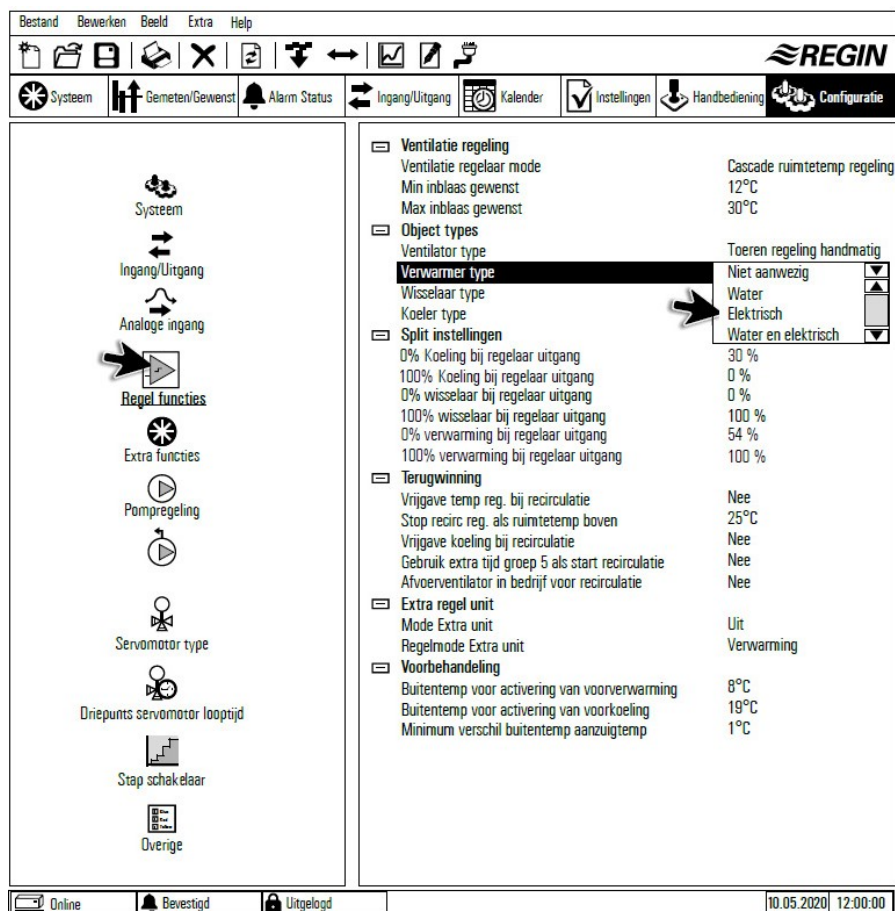

Figure 11
1. Click on the  Figure 11. The 'Rule functions' menu appears on the right-hand side of the screen.